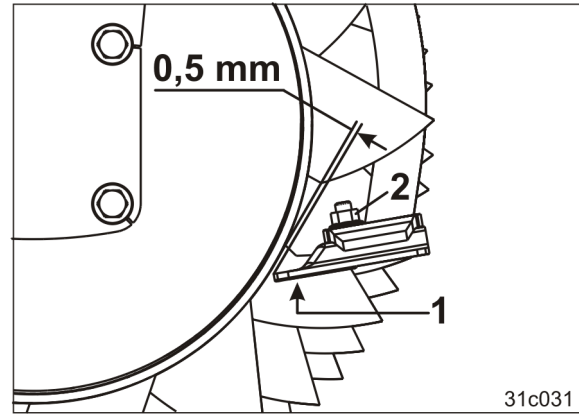

Fig. 144
4. Unscrew the bolt (Fig. 144/2).
5. Screw on the scraper (Fig. 144/1) with a distance of 0.5 mm to the roller tube.